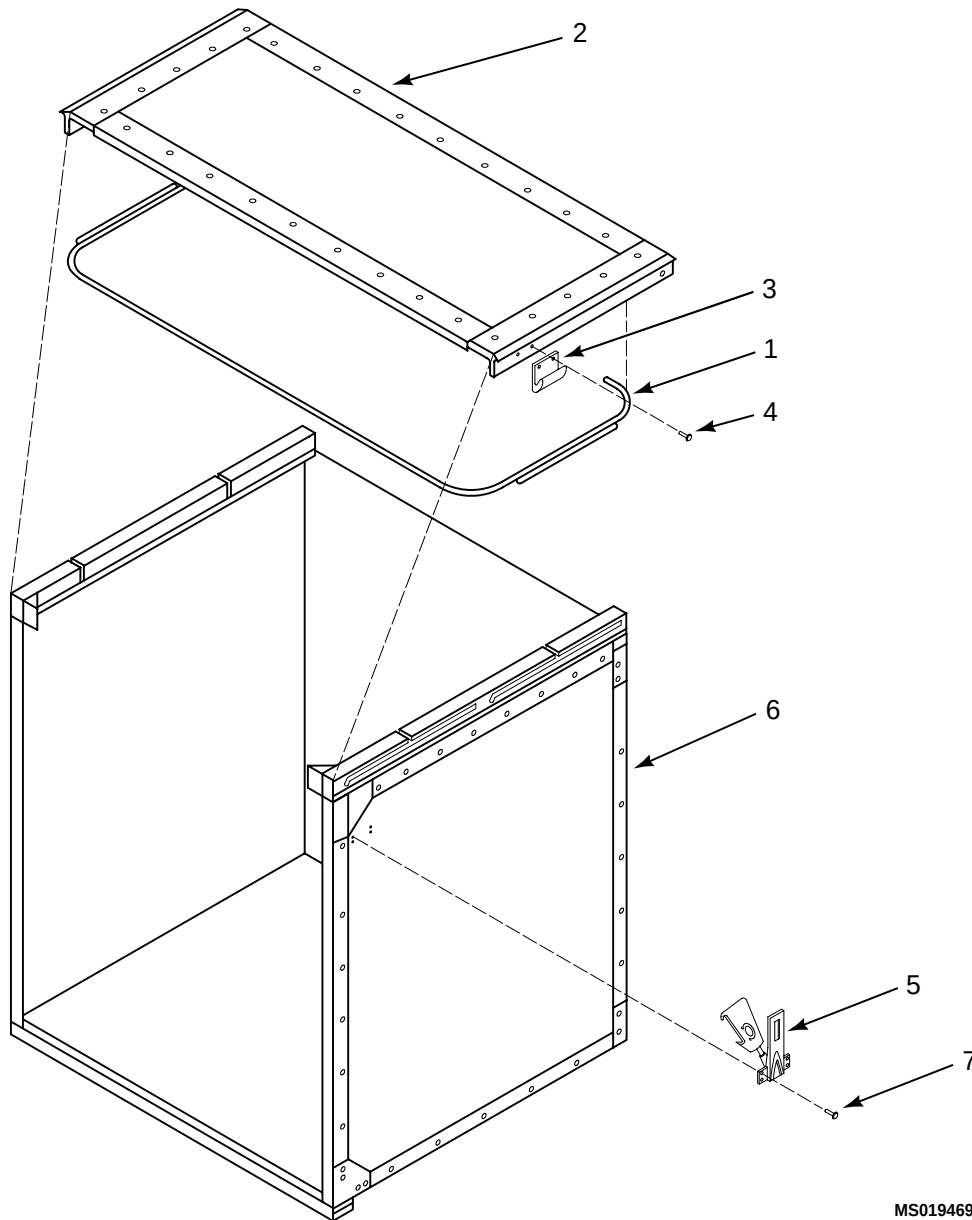

Figure 2. Slider Door Disassembly
5. Peel seal (1) from the door (2). (Figure 2)
1. Once seal (1) has been peeled from door (2), remove old adhesive, oxidation, dirt, and /or other contaminants from door seal area. (Figure 2)
1. If seal (1) has been removed from door (2), attach new seal following instructions in Replacing Door Seal above. (Figure 2)
2. Attach striker plates (3) to door (2) with 4 rivets (4).
3. Attach 2 draw latches (5) to main box assembly (6) with 8 rivets (7).